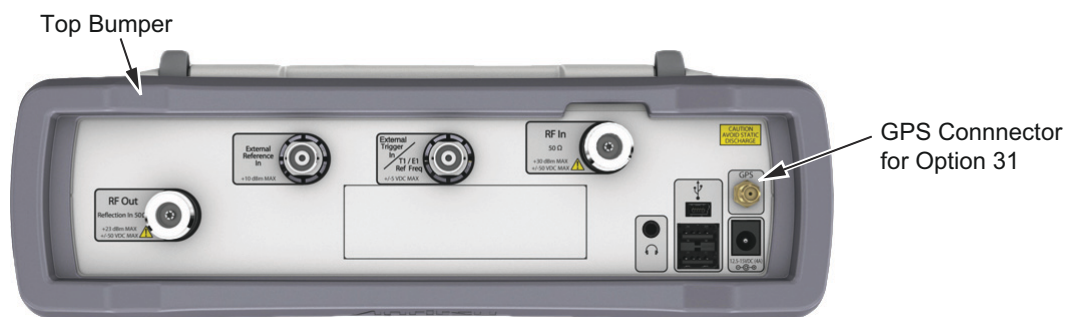

Figure 6-1. Top Bumper and Option 31
2. Remove the top and bottom bumpers (Figure 6-1) to expose the screw holes on the back of the unit.